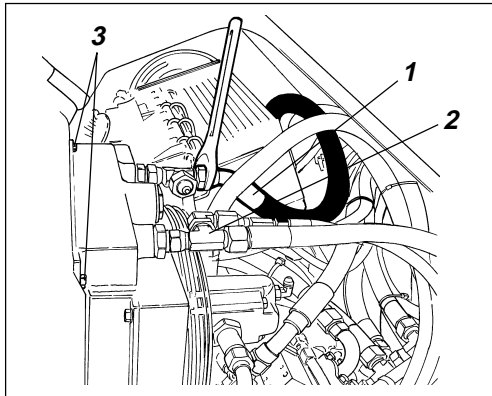

Fig. 3 Cooler
- Loosen the two screws holding the cooler, wrench 13, and lift it out, see fig. 3.
- Loosen the four screws holding the servo valve, hexagonal key 4 mm, on the vibrator pump. Allow the electrical connections to remain in place.